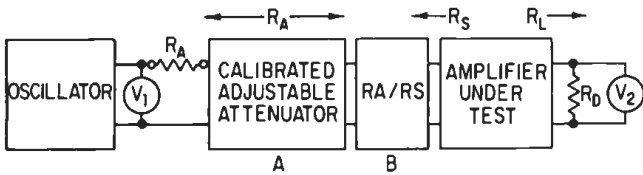

Figure 3. This simplified EIA measuring system can also be used to determine insertion gain.
A simplified version of the same circuit is shown in FIGURE 3, with symbols as before. In this version the output matching network and calibrated output attenuator have been eliminated. Instead, the load resistance for the amplifier,  $R_D$  is connected directly to the amplifier's output. Using this arrangement, the insertion gain is the same as that of Equation (11) with the exception that losses C and D are not used.
Commercially made gain sets may not have the voltage measuring points at the same circuit locations as those indicated in FIGURES 3 and 4, and therefore the gain figures obtained may not agree with those made by the methods presented herein.